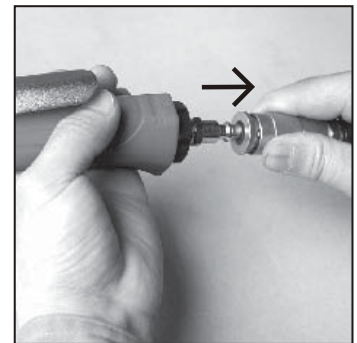

Figure 7
1. Disconnect the tool from the air supply. (See figure 7)